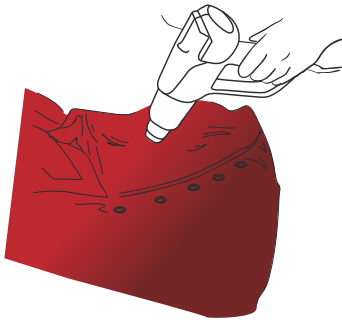

Figure 26
- › Then heat each rivet again to 80 °C - 90 °C (176 °F - 194 °F). (FIG. 26)